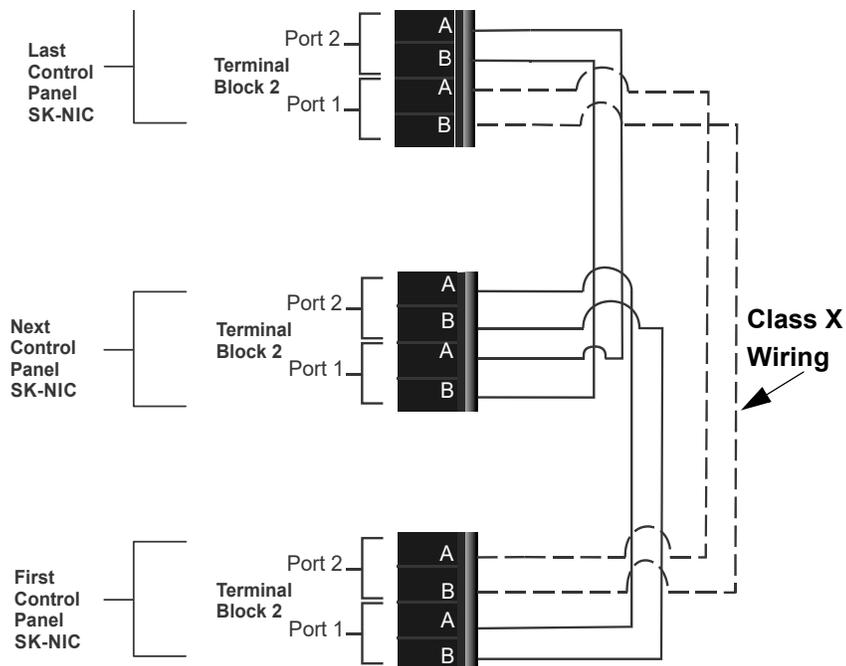
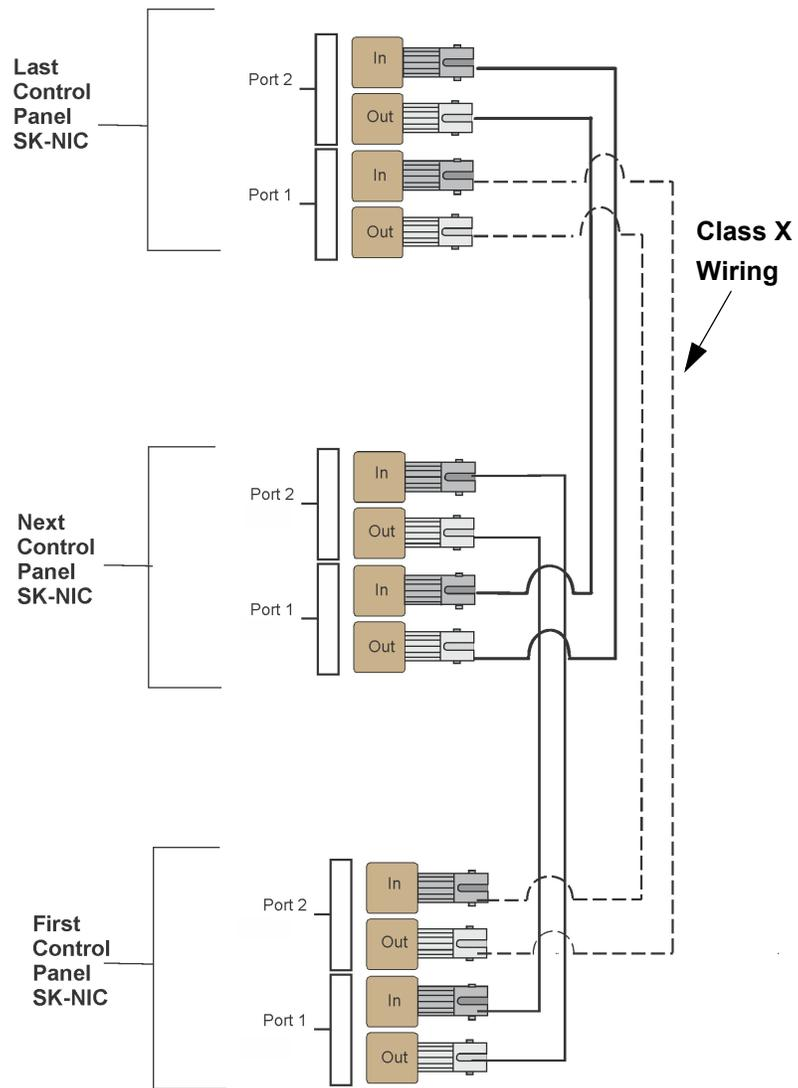
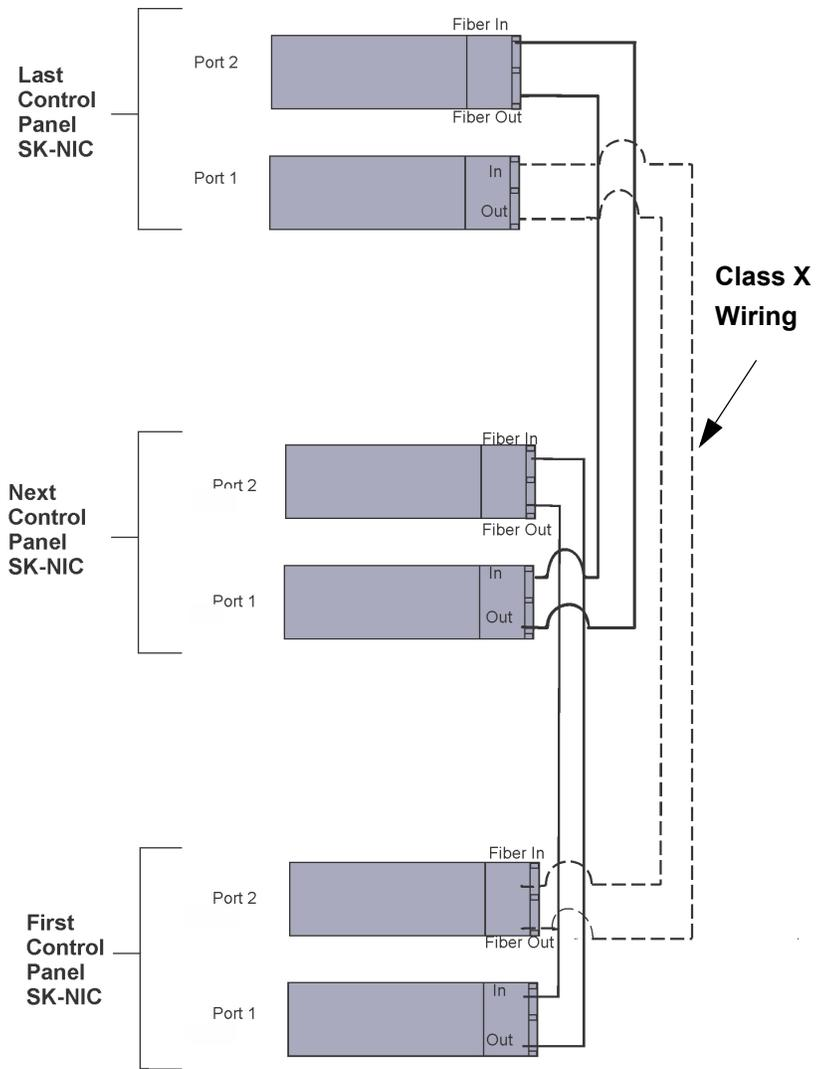
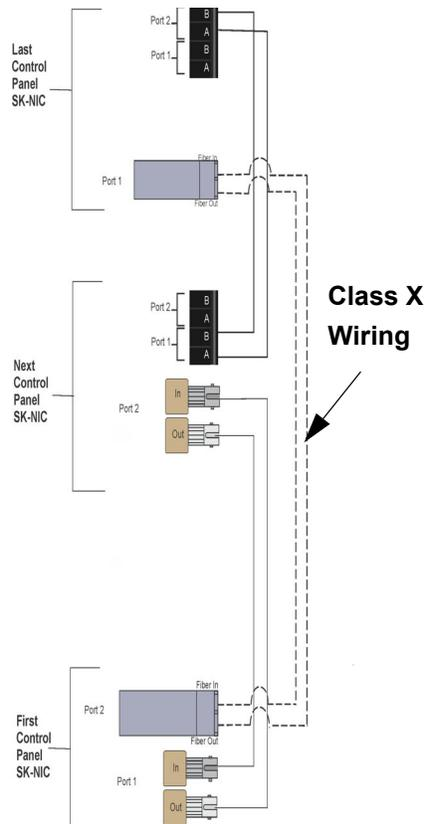

Figure 5.7 Twisted-Pair Wiring Configuration
Figure 5.8 Fiber-Optic Wiring Example
Figure 5.9 Fiber Optic Wiring Single-Mode Example
Figure 5.10 Twisted-Pair and Fiber-Optic Combination Wiring Example
- Based on the type of data medium chosen, run the twisted-pair wiring/fiber-optic cable to the next SK-NIC using a Class B or Class A wiring method. A combination of both medium types can be used. See Figure 5.7, Figure 5.8, Figure 5.9, and Figure 5.10 for SK-NIC wiring examples.
Figure 5.7 shows the unshielded twisted-pair wiring between multiple the panels. Class X wiring is shown with a dotted line.
Fiber-optic cable between multiple panels is shown in Figure 5.8. Class X is shown with a dotted line.
A mixture of fiber-optic cable and twisted-pair wiring between multiple panels is shown in Figure 5.10. Class X cabling is shown with a dotted-line.